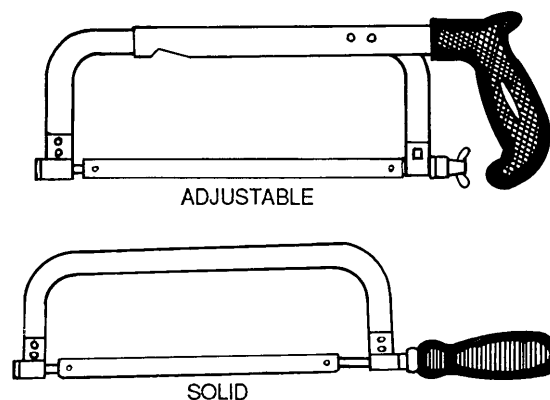

Figure 4-96. Hacksaws
(1) **Frame.** The frame may be solid or adjustable, as shown in figure 4-96. Adjustable frames can be made to hold blades from 8 to 16 inches long, while those with solid frames take only the length blade for which they are made. This length is the distance between the two pins that hold the blade in place. The blade is installed in the frame with the teeth pointing forward, and is tightened by turning the handle or a wing nut.